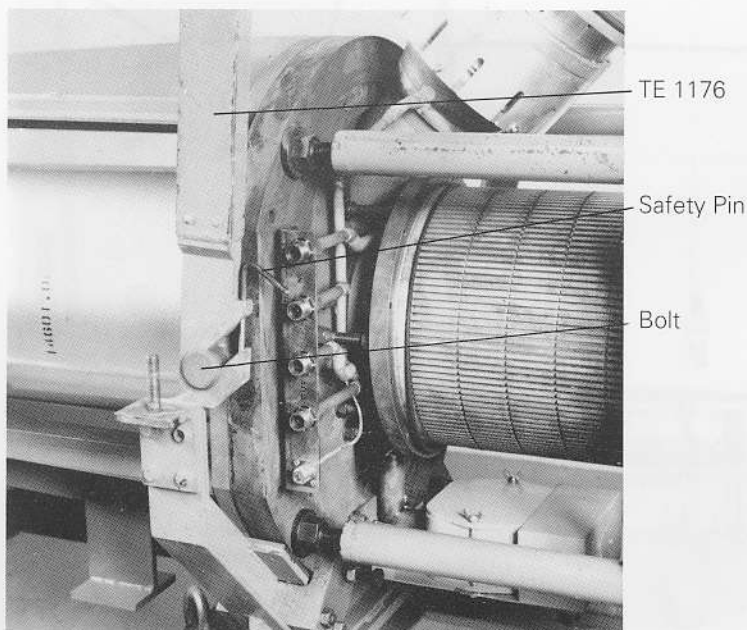

Fig. 8. Securing Lifting Yoke (TE 1176) to Klystron
- (f) Unpack the lifting yoke (TE 1176) and hook it onto the hoist. Attach the lifting yoke (TE 1176) to the two bolts (Fig. 8) on the support flange of the klystron and secure with the two safety pins or cover plates.
- (b) Refit the lifting yoke (TE 1176) to the hoist, ensuring that the lifting yoke is fitted to the two bolts (see Fig. 8) on the support flange of the klystron, and secured with the two safety pins or cover plates.